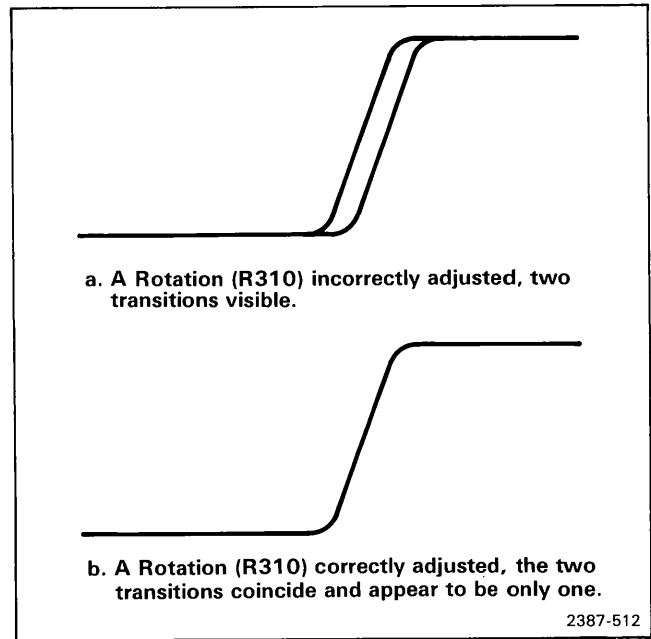

Fig. 5-12. Effect of A Rotation control on waveform at TP332 and TP333 (or B Rotation on waveform at TP330 & TP331).
- ADJUST**—A ROT (R310) for matching overlapped rising and falling edges. Figure 5-12 shows a typical display when R310 is correctly adjusted.